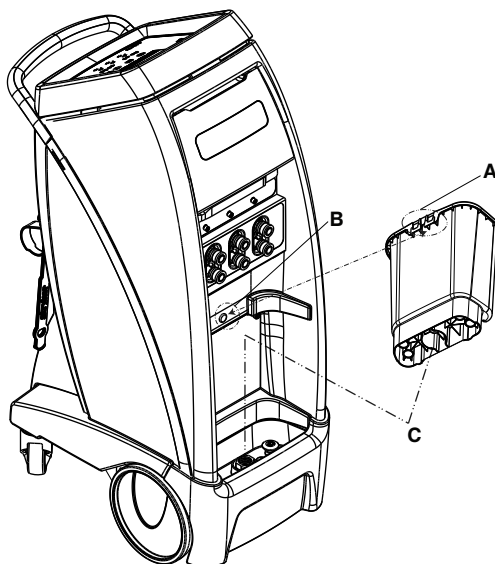

Figure 17 – Removable reservoir
To remove the reservoir, pull forward at an angle, and lift out the reservoir (Figure 17).
1. To replace the reservoir, align the base of the reservoir over the drain (C).
2. Align the notch on the back of the reservoir (A) with the hook on the controller (B) (Figure 17).